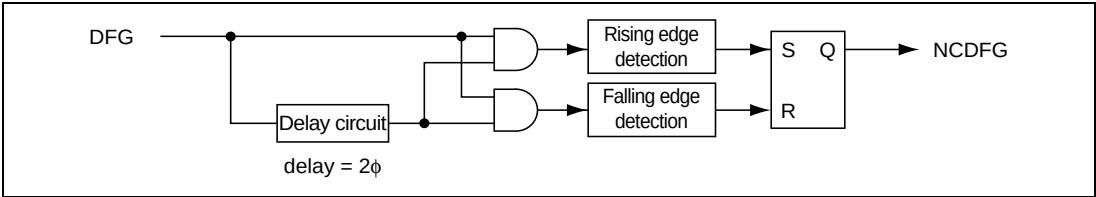

Figure 26.70 DFG Noise Removal Circuit
**Block Diagram:** Figure 26.70 shows the block diagram of the DFG noise removal circuit.